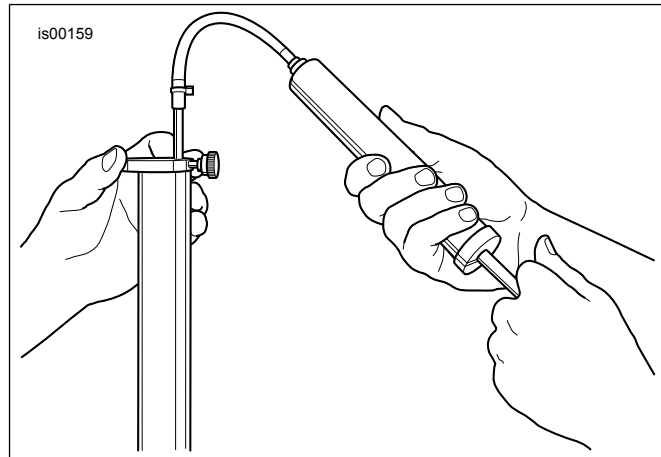

Figure 3. Remove Excess Fork Oil
- a. See Figure 3. Obtain the Front Fork Oil Level Gauge (HD-59000B).
- d. See Figure 3. Insert rod into top of fork tube until metal ring rests flat on top of fork tube.